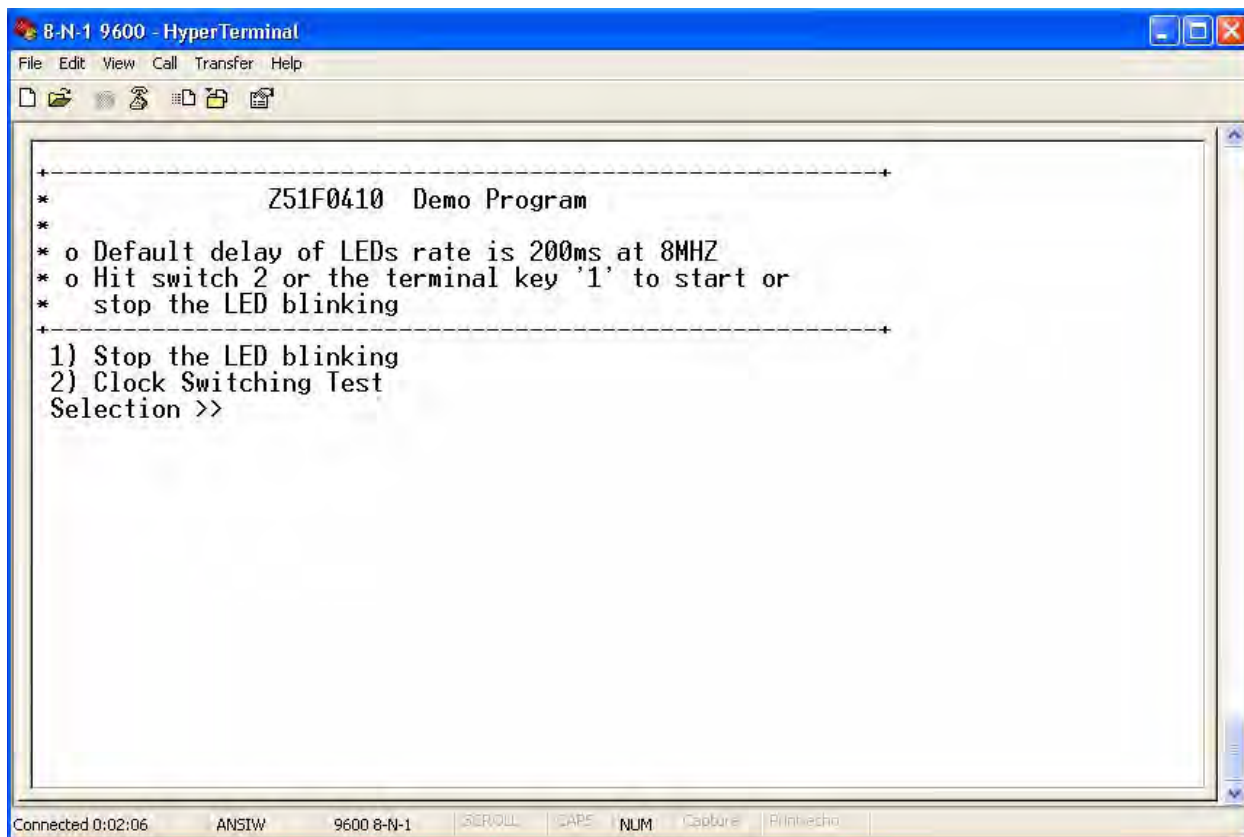

Figure 22. Z51F0410 Demo Program
17. Press any key on the active HyperTerminal window; see Figure 22.
10. Press any key on the active HyperTerminal window; see Figure 22 on page 25.